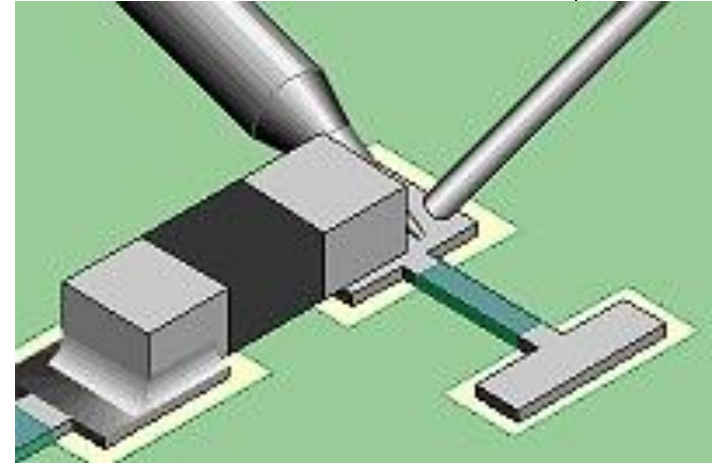

Figure 3
- **Remove the tip. Wait a moment for the solder to solidify before soldering the other side of the component. (See Figure 3).**